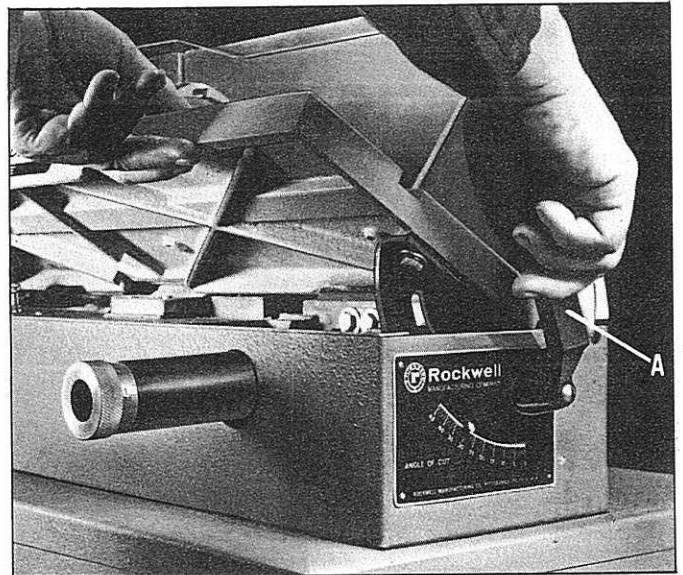

Fig. 4.
1. Loosen both locking handles. One locking handle is shown at (A) Fig. 4. Raise table to desired position and tighten both handles. **NOTE:** When tilting table to  $45^{\circ}$ , use caution. **DO NOT STRIKE LIMIT STOP SEVERLY.**